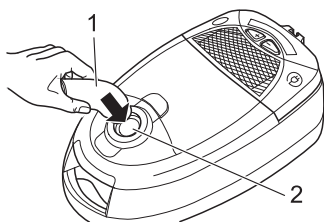

Fig. 2
1. Insert the end of the suction hose (Fig. 2/1) in the intake opening (Fig. 2/2) into the intake opening of the vacuum cleaner, until it locks with an audible click.